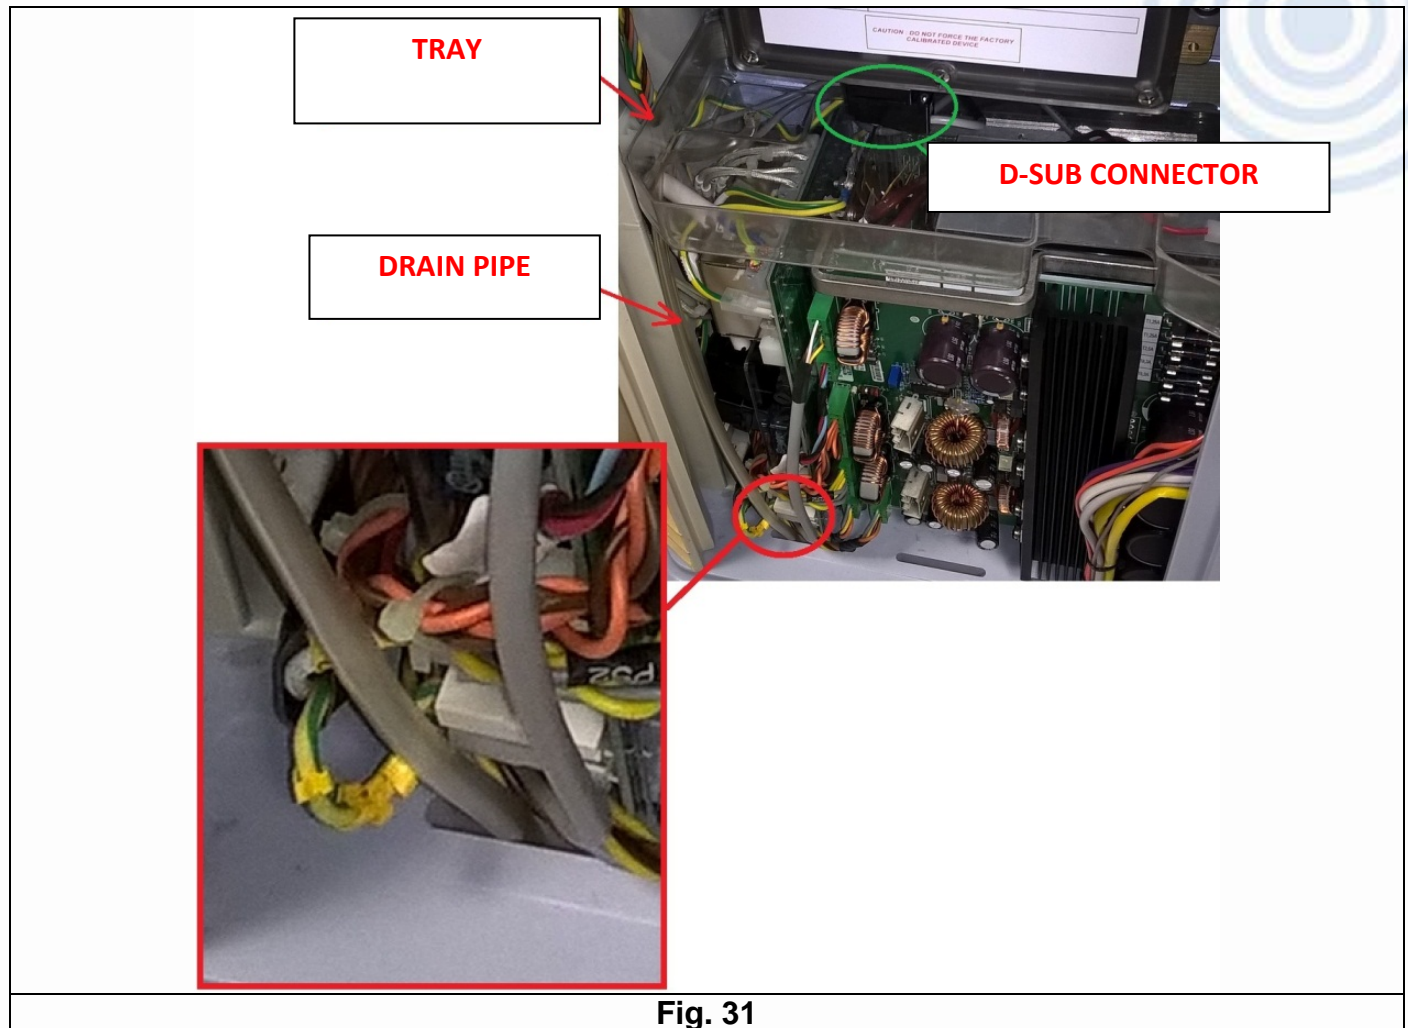

Fig. 31
29. Place the plastic protection tray over the PSU and route the drain pipe to the bottom of the machine (**Fig. 31**).
30. Connect the D-Sub connector to the differential flowmeter (**Fig. 31**).